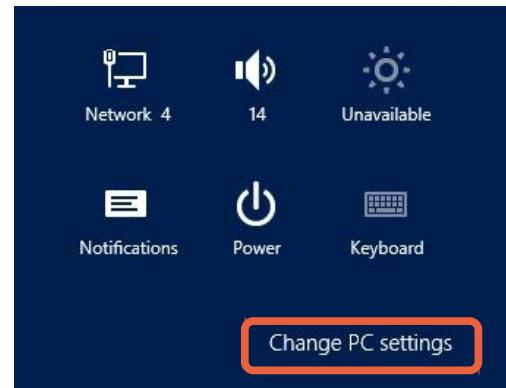

Figure 52: Click "Change PC Settings"
- Now click on “**Change PC Settings**” as shown in Figure 52.